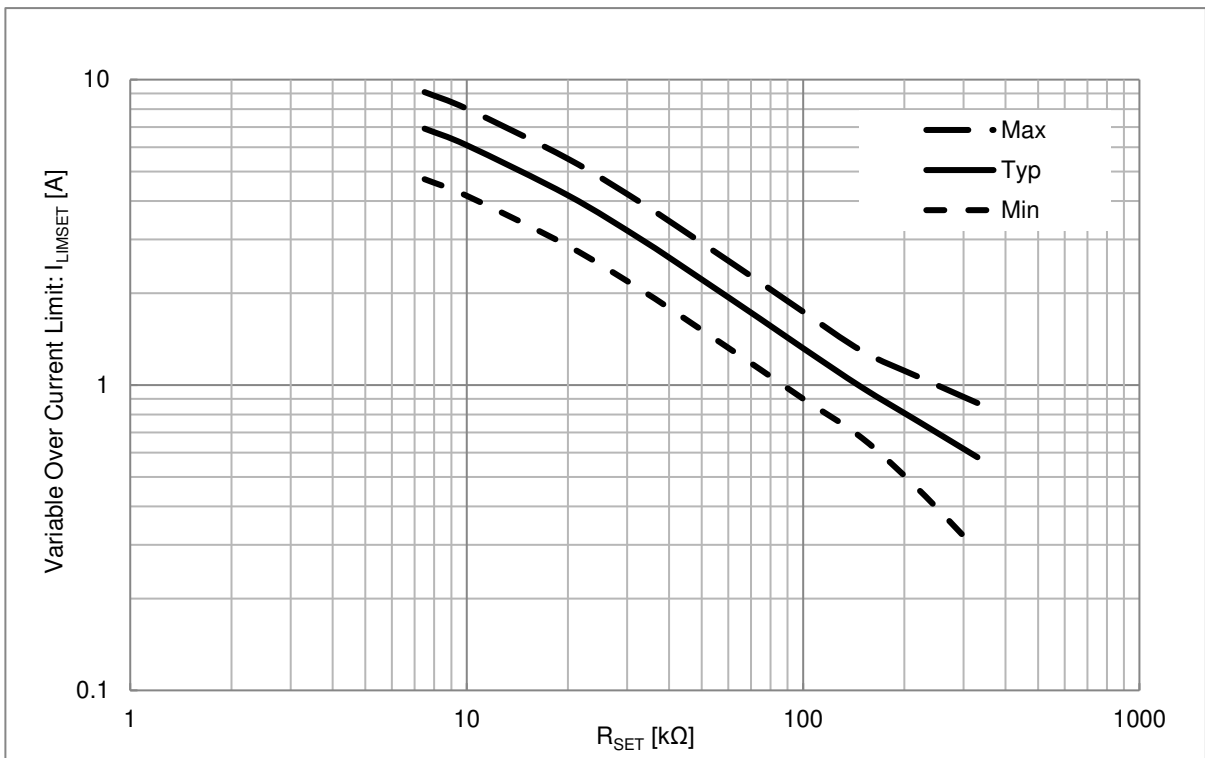
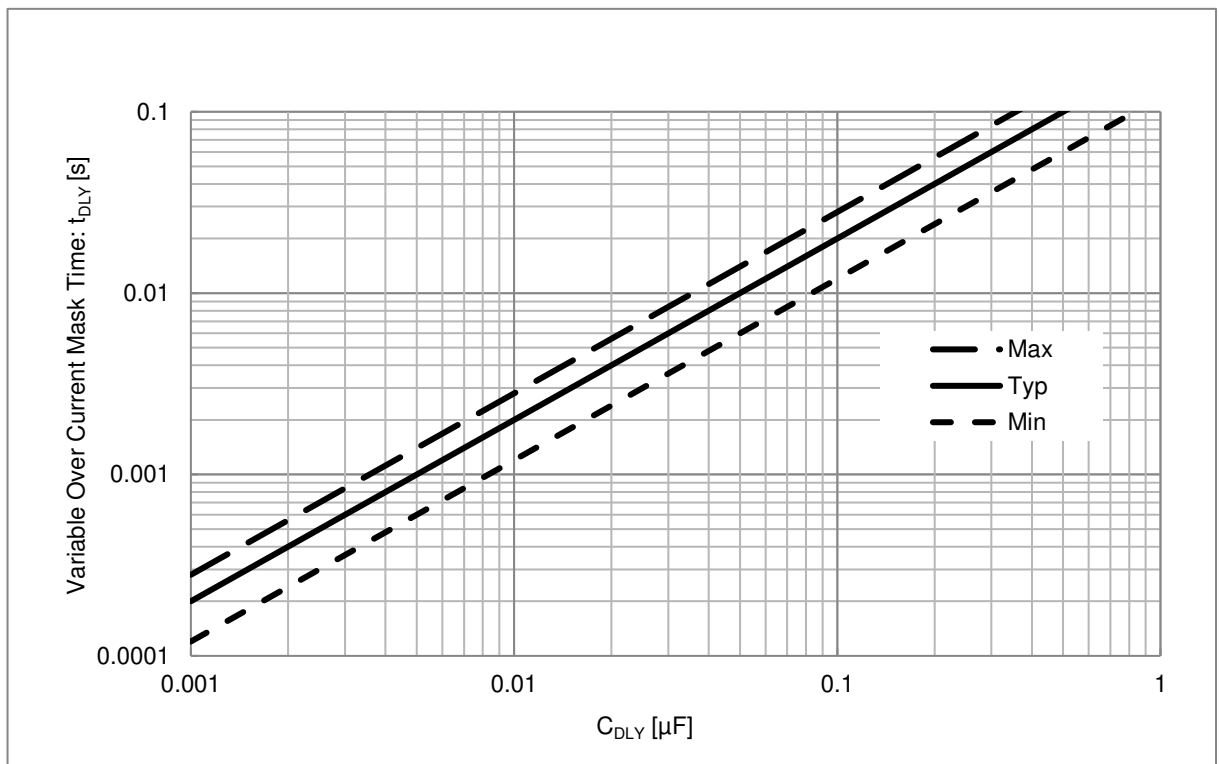

Figure 36. Variable Over Current Limit vs  $R_{SET}$
Figure 37. Variable Over Current Mask Time vs  $C_{DLY}$
**(Note 3)** GND voltage of IC rises when you use RGND and DGND. When GND voltage of IC rises, the voltage of the SET pin and the DLY pin of the variable overcurrent setting rises, too. Please use it in consideration of rise in GND voltage. It is available with a characteristic as it is showed in Figure 36 and Figure 37 when you connect RSET and CDLY to GND of IC.